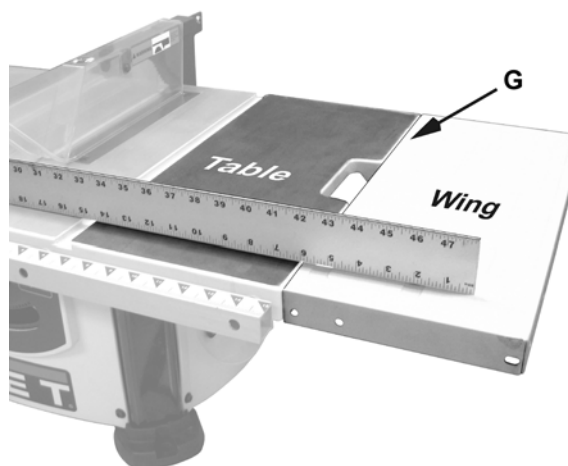

Figure 12
5. Place a *straight edge* across the *table* and *extension wing* near the front as shown in Figure 12.
7. Move the straight edge so it lies across the table and wing *towards the back* (A).
9. When the extension wing is in line with the table at the front and rear, tighten the screws (C) and hex nuts (F) with two 14mm wrenches.